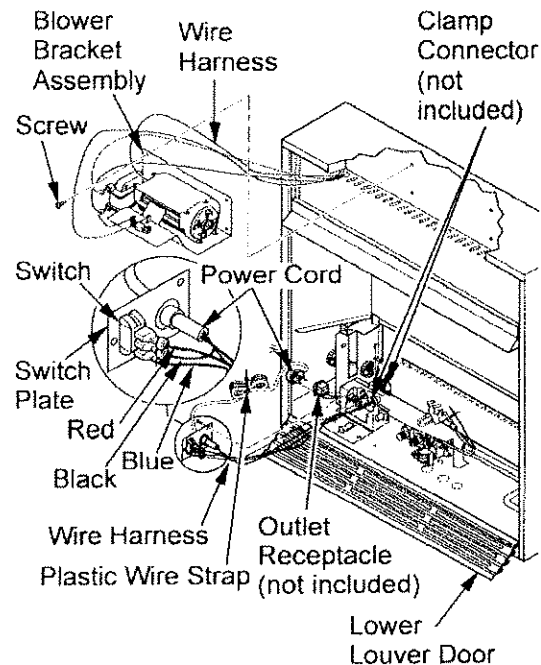

Figure 19 - Installing Blower Bracket Assembly
- Plug power cord to the outlet receptacle (not provided) as shown in Figure 19. Wind the extra power cord and tie with plastic wire strap (see Figure 19). Set the power cord bundle between the burner bracket and outer casing, away from the burner.